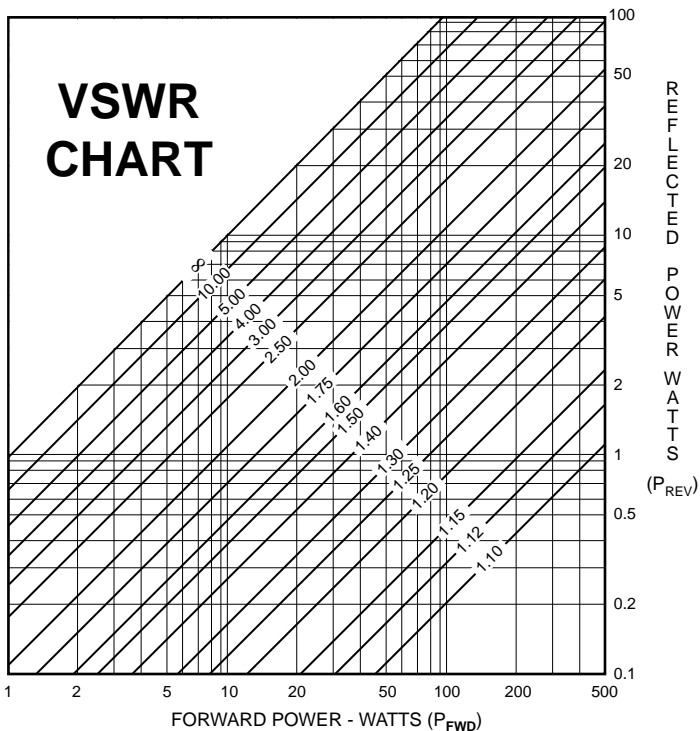

Figure 7-1: VSWR Chart
2.	Refer to the VSWR Chart on the rear of the instrument or Figure 7-1. Apply the readings from Step 1 to the chart.
6.04 Adjustments to the instrument should be performed by Telewave, or other RF calibration laboratory. Calibration or adjustment should be made at a frequency of 467 MHz when possible. If it is necessary to perform calibration below 150 MHz, consult Figure 7-1 for the correction factor. The adjustment potentiometers are located on the main PC board inside the instrument. Refer to Figure 3-1 and 6-1.
7.02 Figure 7-1 (below) shows a nomograph for estimating VSWR from the measured incident and reflected power. See 5.05 for calculation procedures.